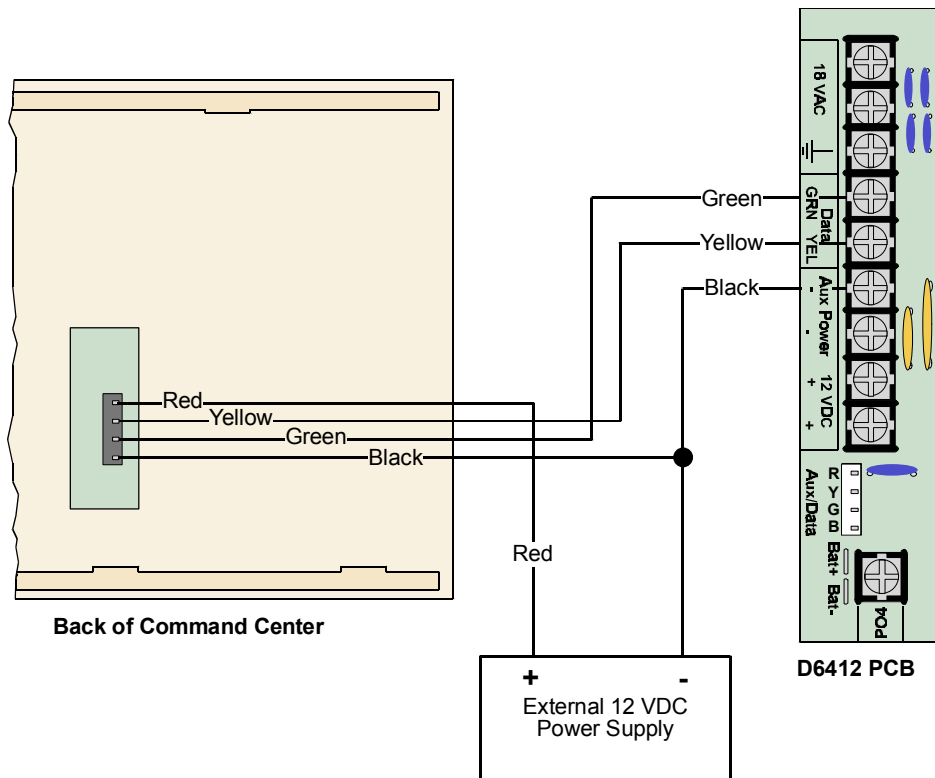

Figure 31: External Power for Command Centers
**Extra power needed for more Command Centers:** Review Section 5.0, *Power Outputs*, to determine the total power output requirements for your system. You may need to add one or more External Power Supply Modules for the number of Command Centers you want to use. Figure 31 shows an external power supply powering Command Centers in a stand-alone configuration.
**Control/Communicator and External Power Supply must share COMMON:** Figure 31 shows the common from the External Power Supply Module connected to both the Command Centers' common and the common on the Control/Communicator.
**Extra power needed for additional SDI Devices:** Review Section 5.0, *Power Outputs*, to determine the total power output requirements for your system. You may need to add one or more External Power Supply Modules for the number of devices you want to use. Figure 31 shows an external power supply powering Command Centers.